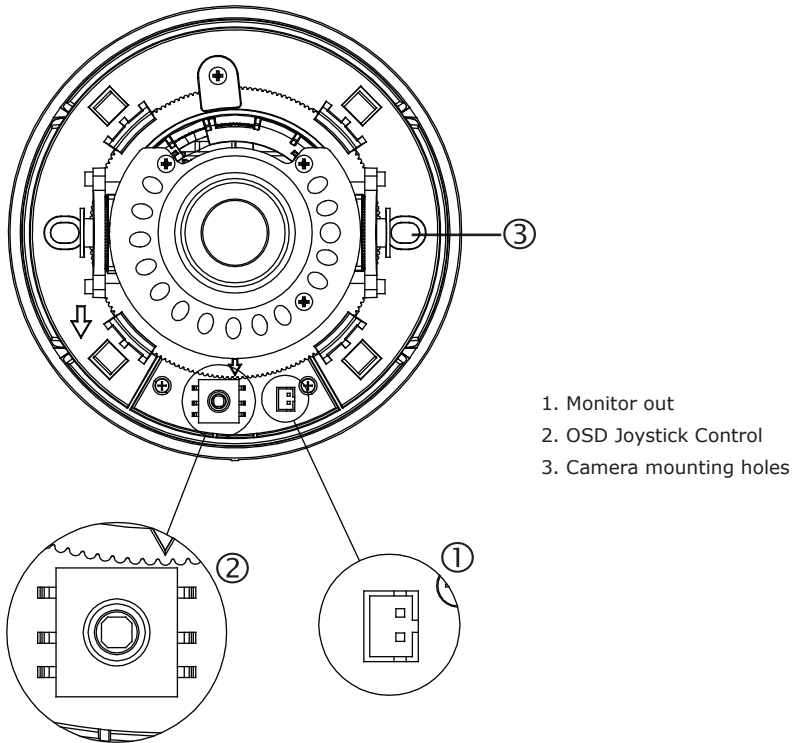

Figure 2-3 Camera adjustment controls
**Note:** See Figure 2-3 for camera board controls.
Refer to Figure 2-3 to locate the OSD joystick control on the camera board. Use the joystick to access the OSD menu and configure the camera settings as required.